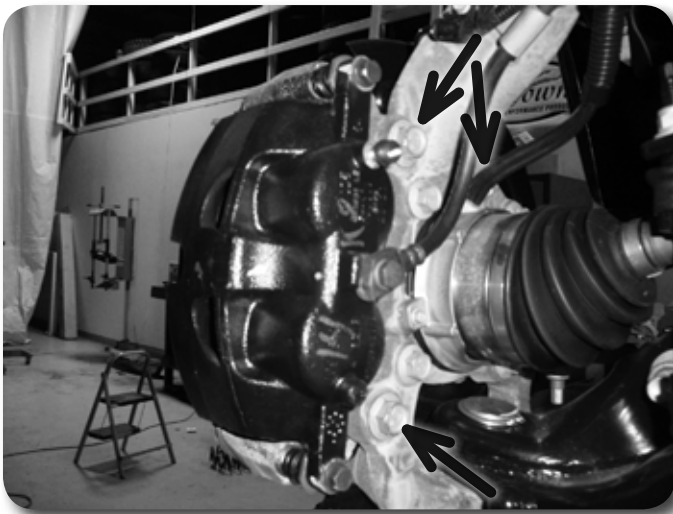

Figure 1
5. Remove the brake caliper anchor bracket bolts and remove the caliper from the knuckle **Figure 1**. Hang the caliper out of the way. Do not let the caliper hang by the brake hoses.
6. Disconnect the hub vacuum line from the hub **Figure 1**.